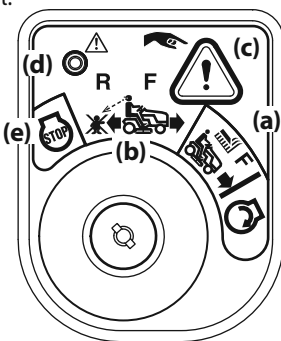

Figure 18
2. Turn the ignition key from the NORMAL MOWING (a) position to the REVERSE CAUTION MODE (b) position of the ignition switch. See Figure 18.
3. Press and hold the REVERSE CAUTION MODE BUTTON (c) at the top, right corner of the ignition module for 3 seconds. The red indicator light (d) at the top, left corner of the ignition module will be ON while activated. See Figure 18.
4. Once activated (indicator light ON), the tractor can be driven in reverse with the PTO (Blade Engage) in the engaged (ON) position.